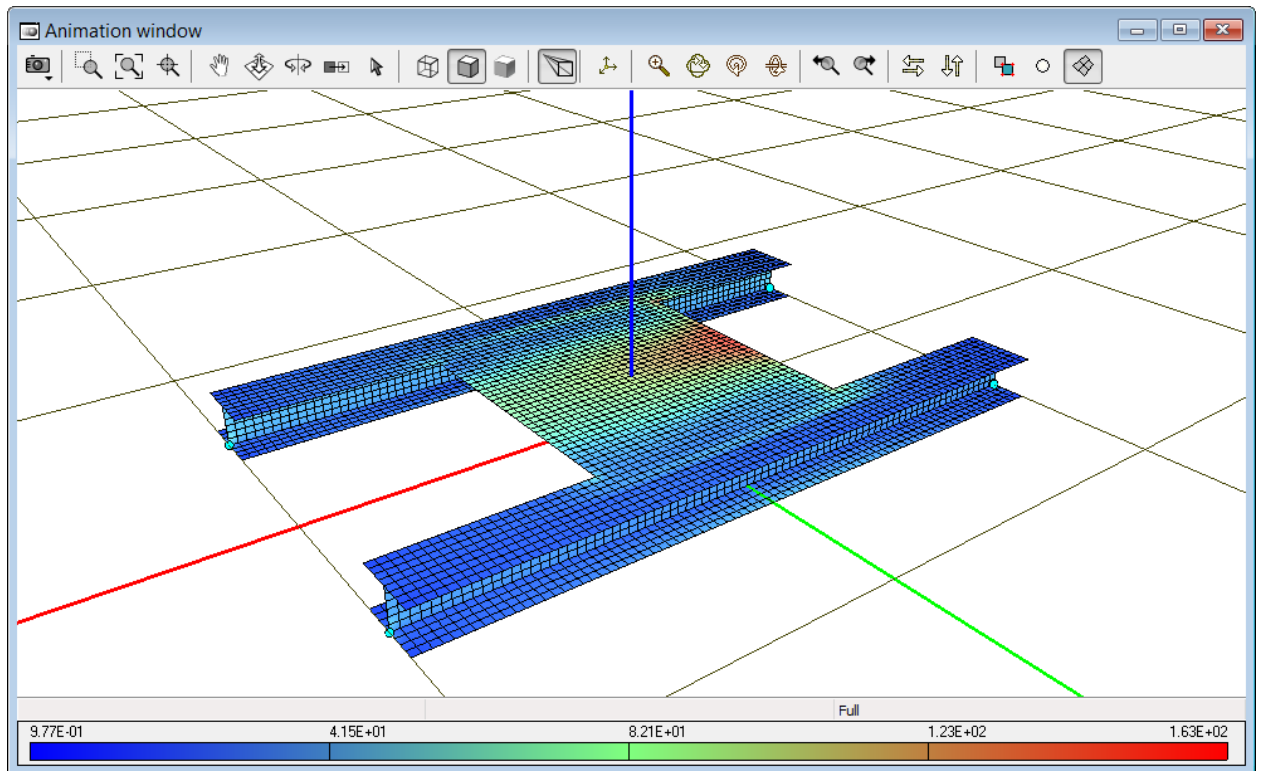

Figure 2.18. Distribution of maximal amplitudes
- Click **Show**. New animation window with distribution of maximal values of stresses appears, see Figure 2.18.